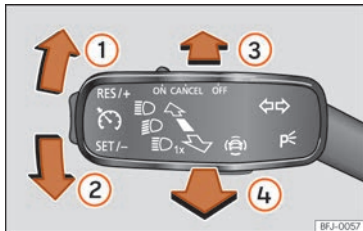

Fig. 96 Turn signal and main beam lever.
- From the base position, press the turn signal and main beam headlights lever forwards »» **Fig. 96**  When the lamp  is displayed on the instrument panel display, the main beam assist is switched on.
- **OR:** while the main beam is on, pull the turn signal light and main beam headlights lever forwards »» **Fig. 96** .